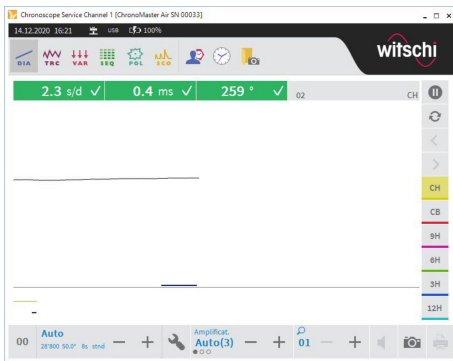

Fig. 21: Automatic start to the measuring procedure
- The measuring procedure starts automatically (Fig. 21).